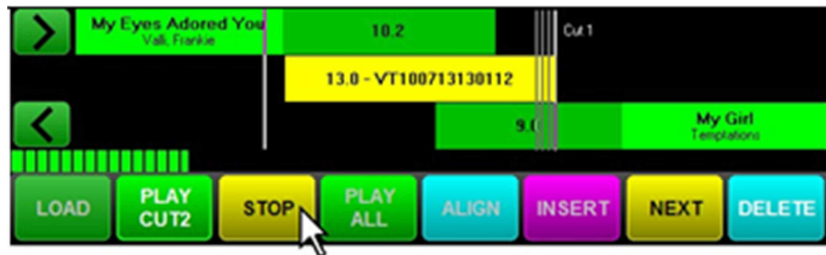

Figure 6-21. Clicking the STOP Button
- 3. To end the recording progress, click the **Stop** button (see Figure 6-21).